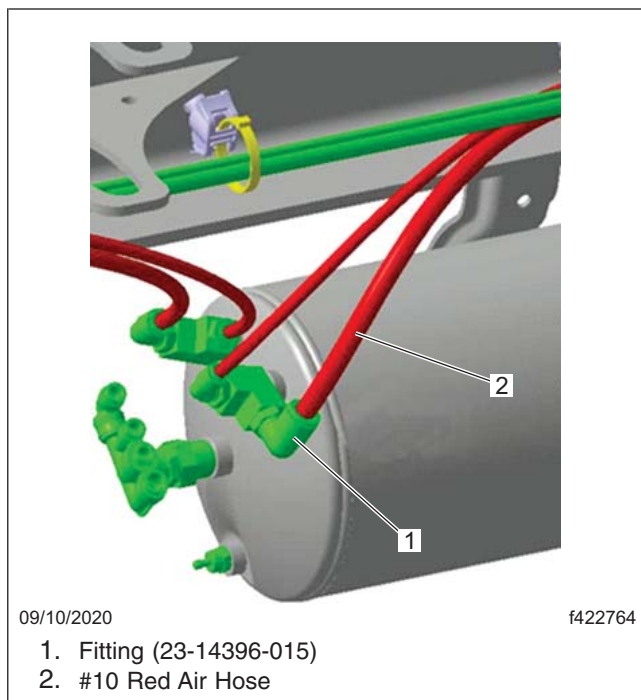
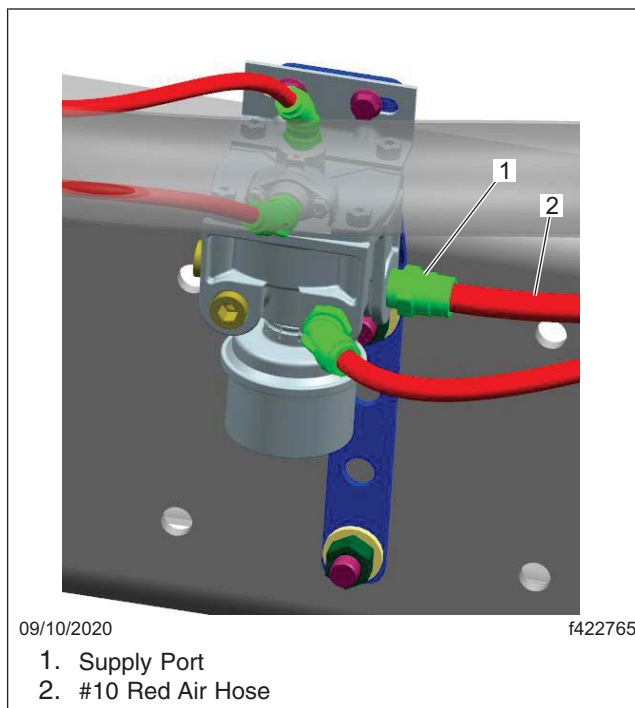

Fig. 29, Secondary Air Tank
Fig. 30, R-12 Relay, Supply Port
13. Add one air fitting (23-14396-015) to an available port on the secondary air tank. See Fig. 29. An additional brass T-fitting may be required if there is no port available. Route a #10 red air hose from this air fitting to the supply port on the R-12 relay. See Fig. 30.